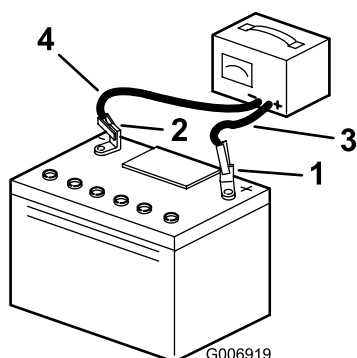

Figure 27
- Disconnect the charger leads from the battery posts (Figure 27).